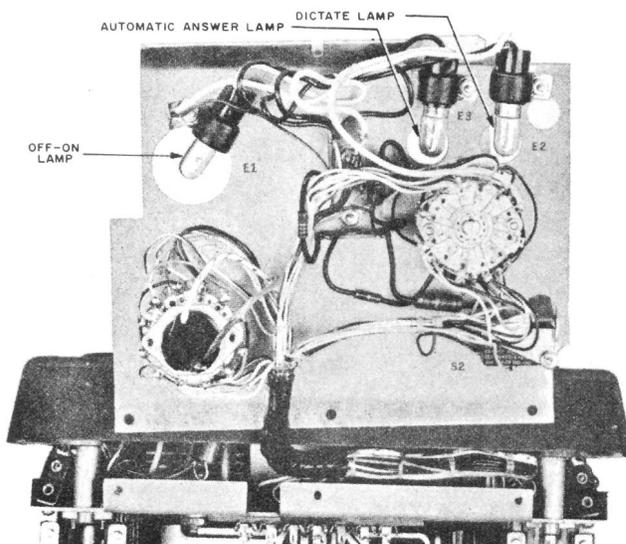

Fig. 8 - Control Panel Indicating Lamps
1.11 The control panel indicating lamps are shown in Fig. 8.